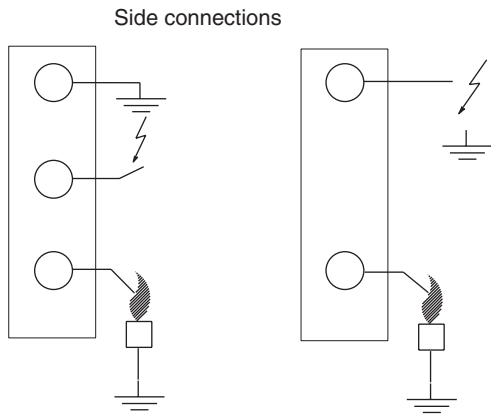
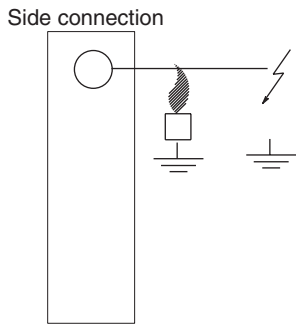

Fig. 31. Alternative side connection in case of sparking to ground
Fig. 32. Alternative side connection in case of combined flame sensing and sparking (single rod)
** See page 29. Fig. 31.
* See page 29. Fig. 31.
* See page 29. Fig. 31. and Fig. 32.